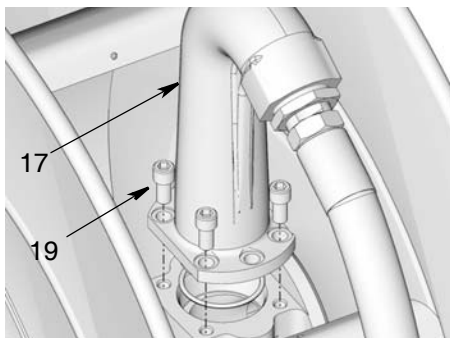

FIG. 34
2. Remove bolts (19) and outlet (17) from reel (FIG. 34).